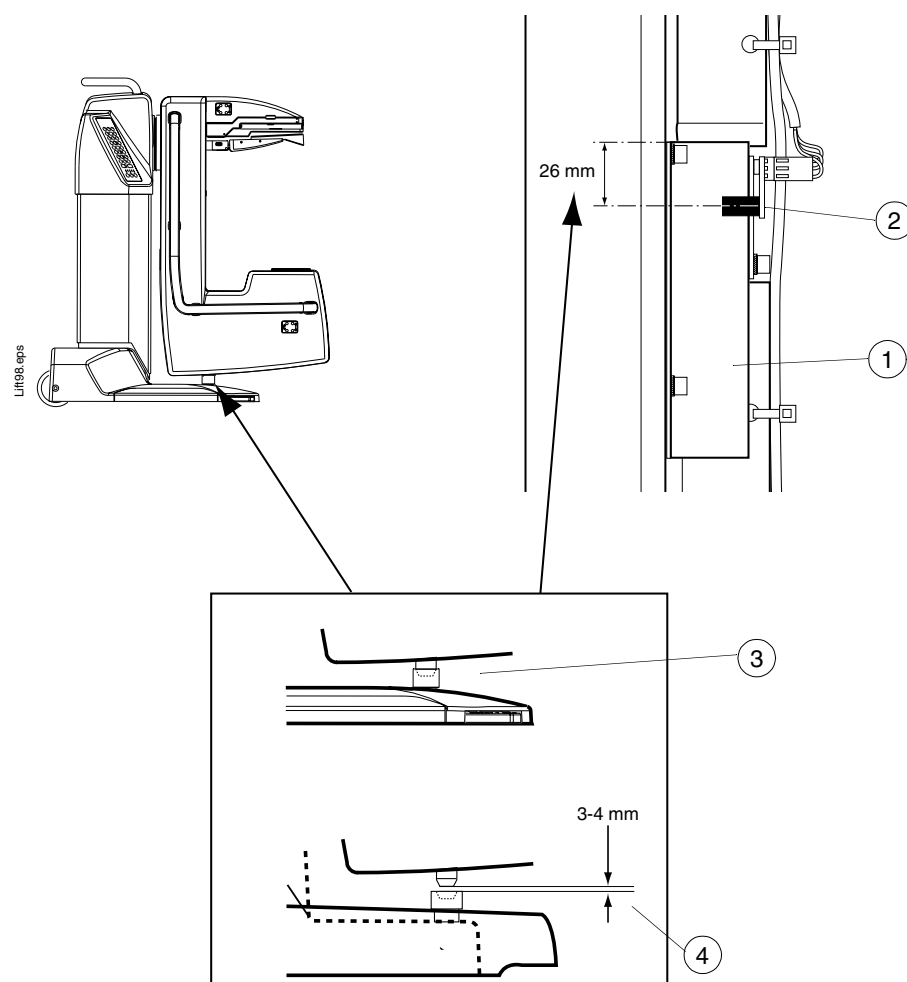

Figure F.36
- c) When the detector plate (Fig. F.36, 1) hits the opto-sensor on the lift reference PCB (Fig. F.36, 2), the right middle segment lights.
- Adjust the detector plate's position so that when the locking stud touches the locking knob, the distance between opto-sensor middle line and the upper edge of the detector plate is 26mm (Fig. F.36, 3).
- Adjust the detector plate's position so that the distance between opto-sensor middle line and the upper edge of the detector plate is 26mm (Fig. F.36, 4).